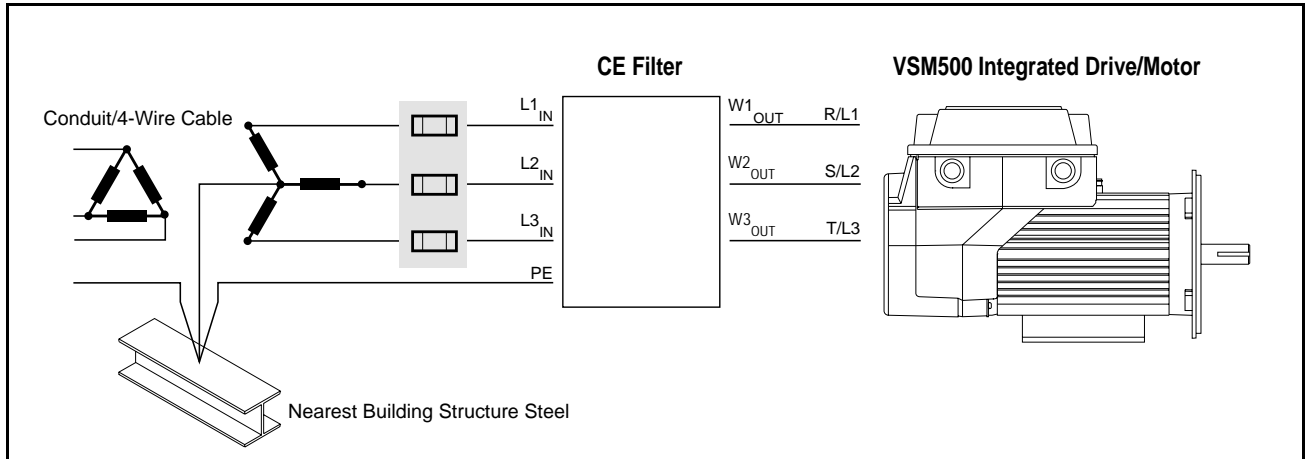
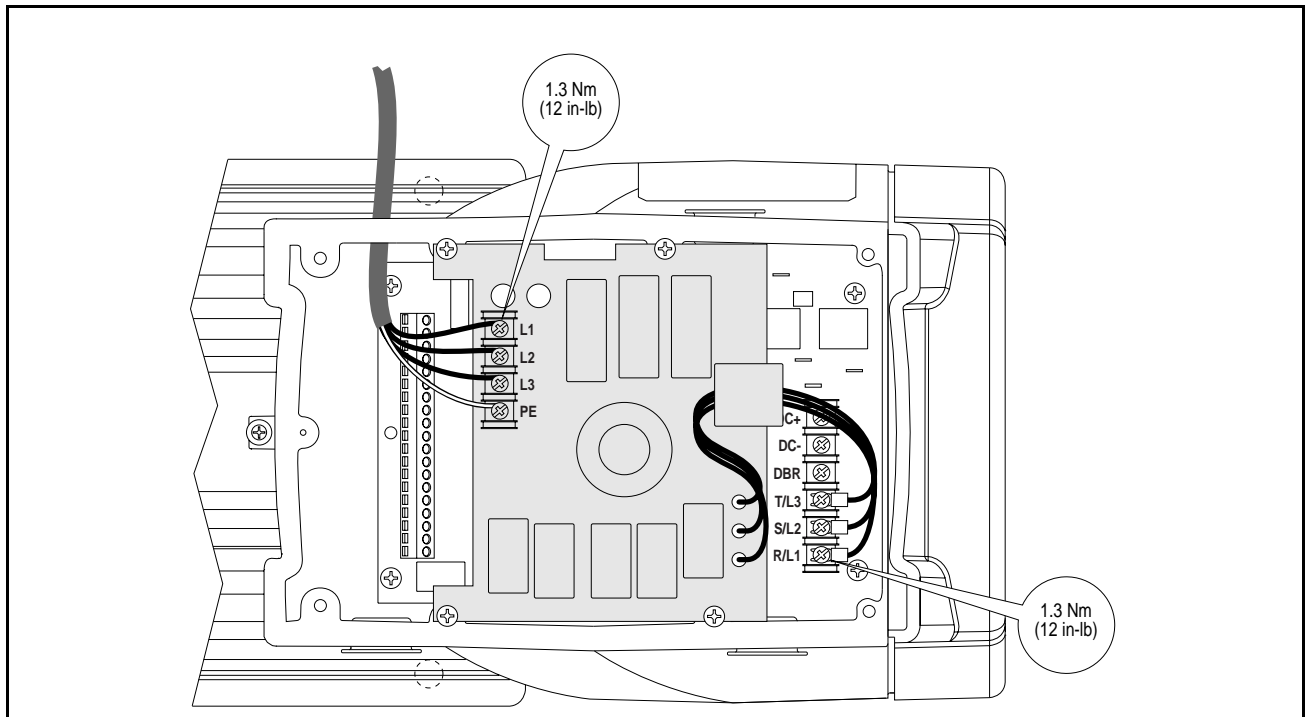

Figure 2 – Wiring the Internal Mount CE Kit
Figure 3 – Wiring the CE Filter to the VSM500 Drive/Motor
Step 3. Connect the incoming AC supply line to the CE filter as shown in figure 2 and figure 3.
Important: The filter may cause ground leakage currents. Therefore, a solid ground connection must be provided as shown in figure 2.
Step 4. Connect the power wires from the CE filter to the VSM500 unit as shown in figure 3 (three-phase unit shown).